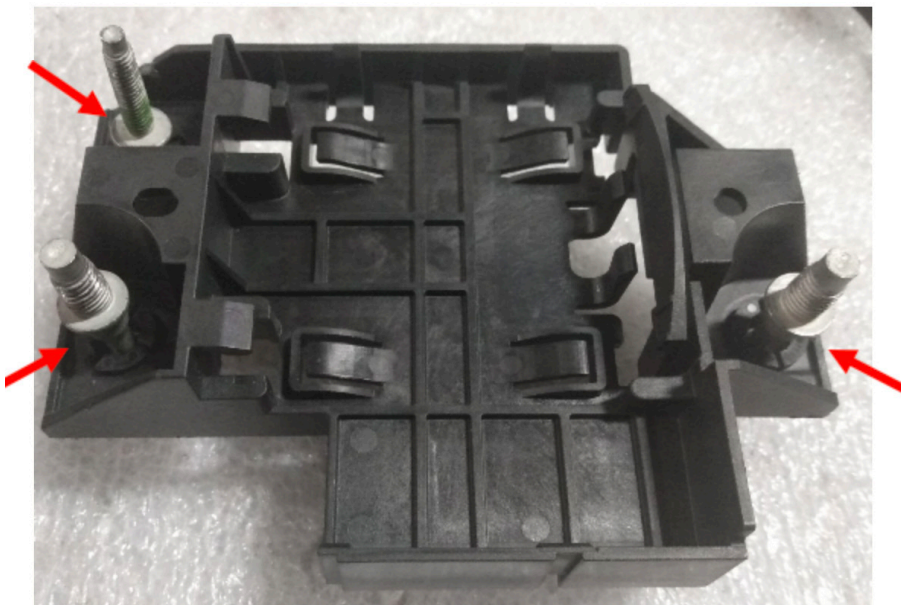

Figure 20
17. Reinstall the mounting studs, sockets, and locking nuts on the opposite side of the ACC mounting bracket by reversing the steps used to remove them. Figure 20